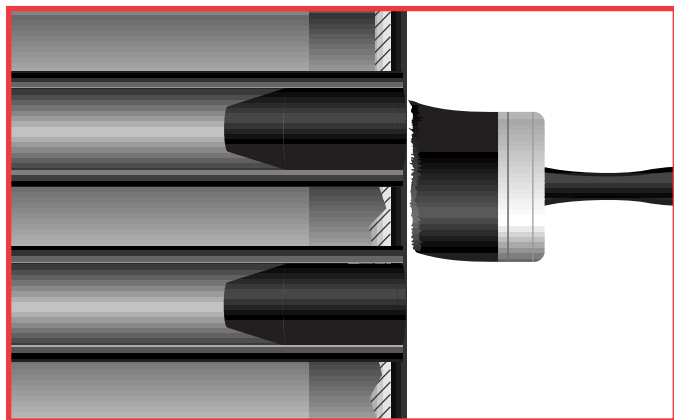

Figure 35. Brush apply epoxy to "wet out" surface.
- To build up** depressions where there is a greater than 1/8" (3 mm) distance from the tube sheet, first coat the sheet with Brushable Ceramic to help "wet out" the surface and act as an excellent prime coat for the next step. (See figure 35)